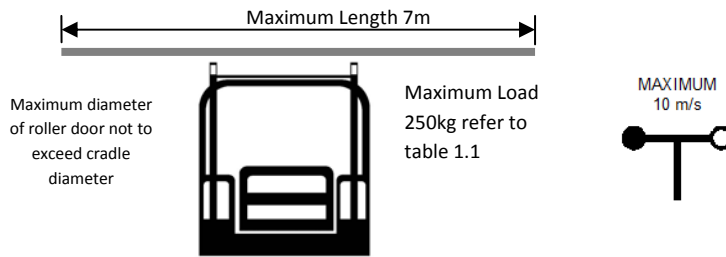
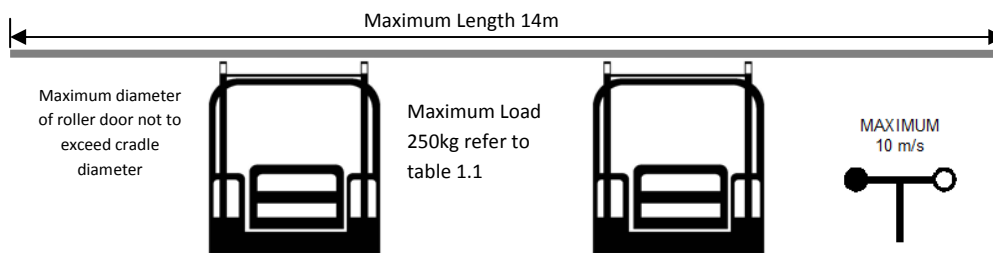

Figure 1.1 Single Lift
Figure 1.2 Dual Lift
6. The length of the load should be evenly distributed across the width of the platform as per figure 1.1 'Single Lift' OR Figure 1.2 'Dual Lift'.